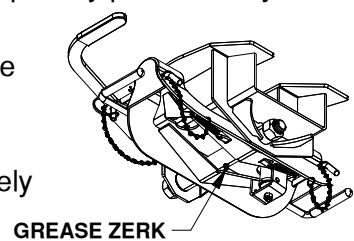

FIGURE J1: Underside view of Coupler Head
- Grease the saddle through the grease zerk approximately every six months with multi-purpose grease. this allows the coupler to pivot freely, see figure J1.